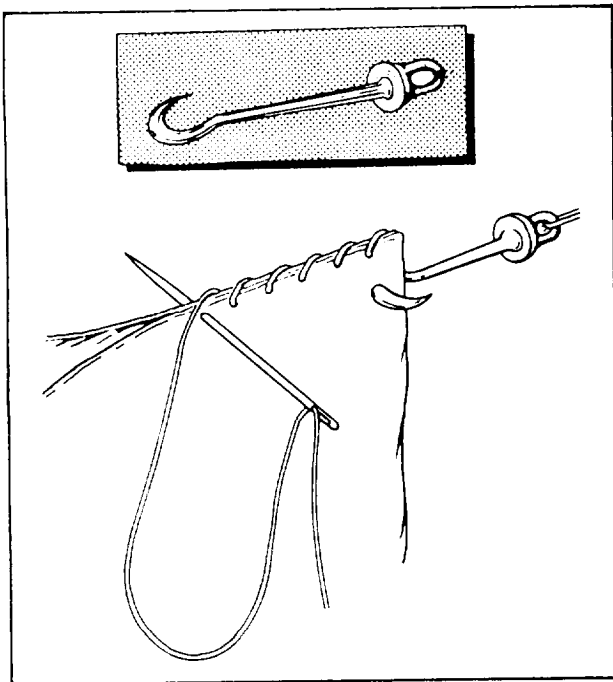

Figure 3-34.—Round stitching canvas held by a bench hook.
- **Sailmaker's or bench hook:** This hook has a swivel eye. It is used to hold the ends of two pieces of canvas being sewn together, as shown in figure 3-34.
- **Round stitch:** The round stitch is the one used most commonly for joining two pieces of canvas. Turn back the edges, hold the pieces together, and send the needle through both pieces at right angles at the seam, as shown in figure 3-34.